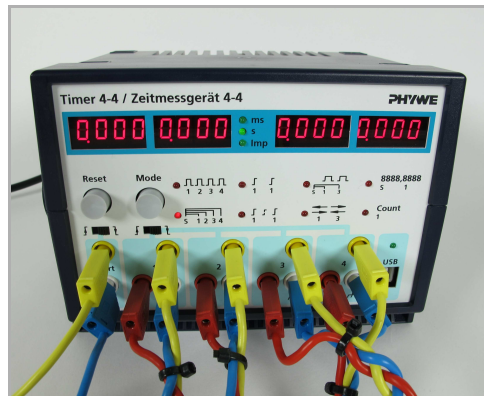

Fig. 6: Connection of the light barriers and starter system
7. Connect the four light barriers from the left to the right to the sockets in the fields "1" to "4" of the timer as shown in Fig. 6. In doing so, connect the yellow sockets of the light barriers to the yellow sockets of the measuring instrument, the red sockets to their red counterparts, and the blue sockets of the light barriers to the white sockets of the timer.